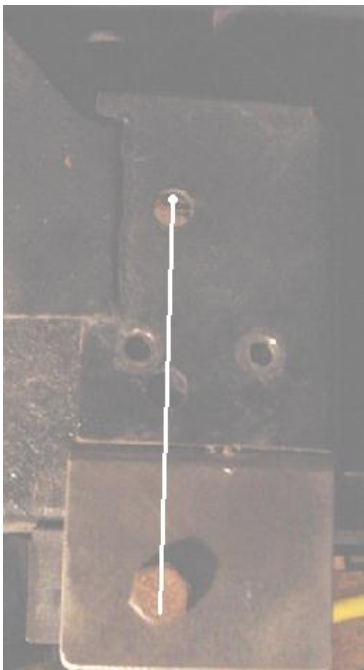

FIGURE 2
12. support is properly positioned. (See figure 2) You can place a spring bolt in the mount to ensure its level. Clamp in place once adjusted.